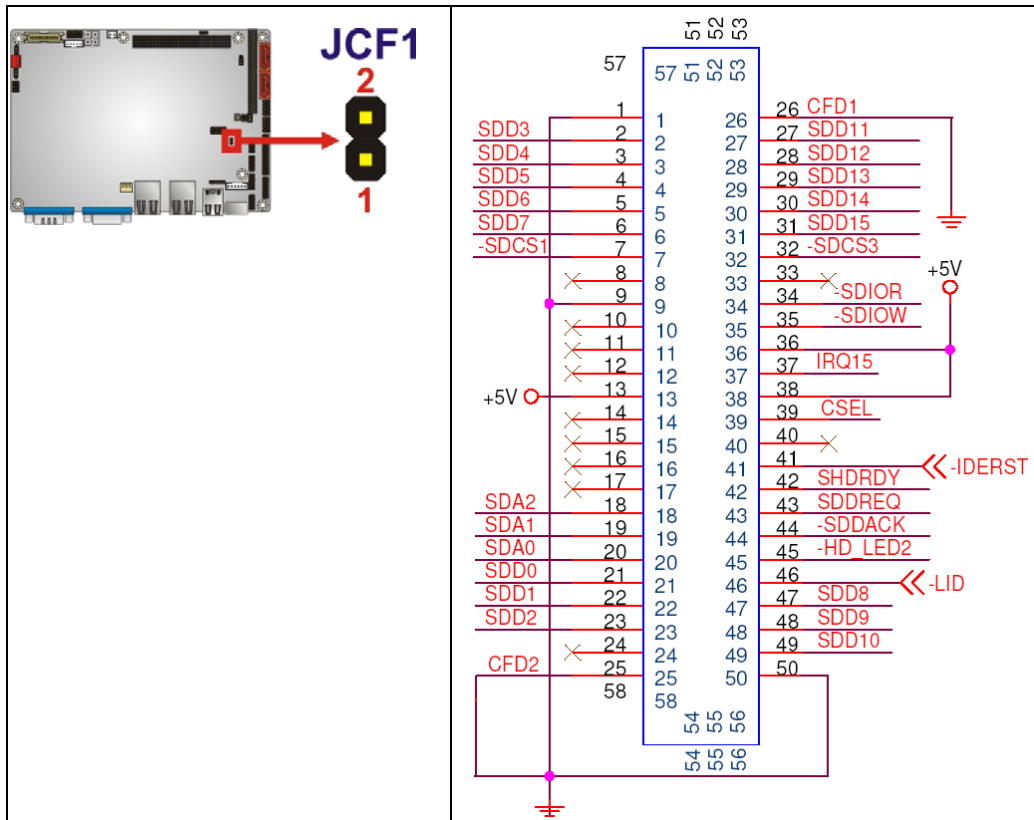

Figure 4-5: CF Card Socket Location
- CN Location:** See **Figure 4-5**